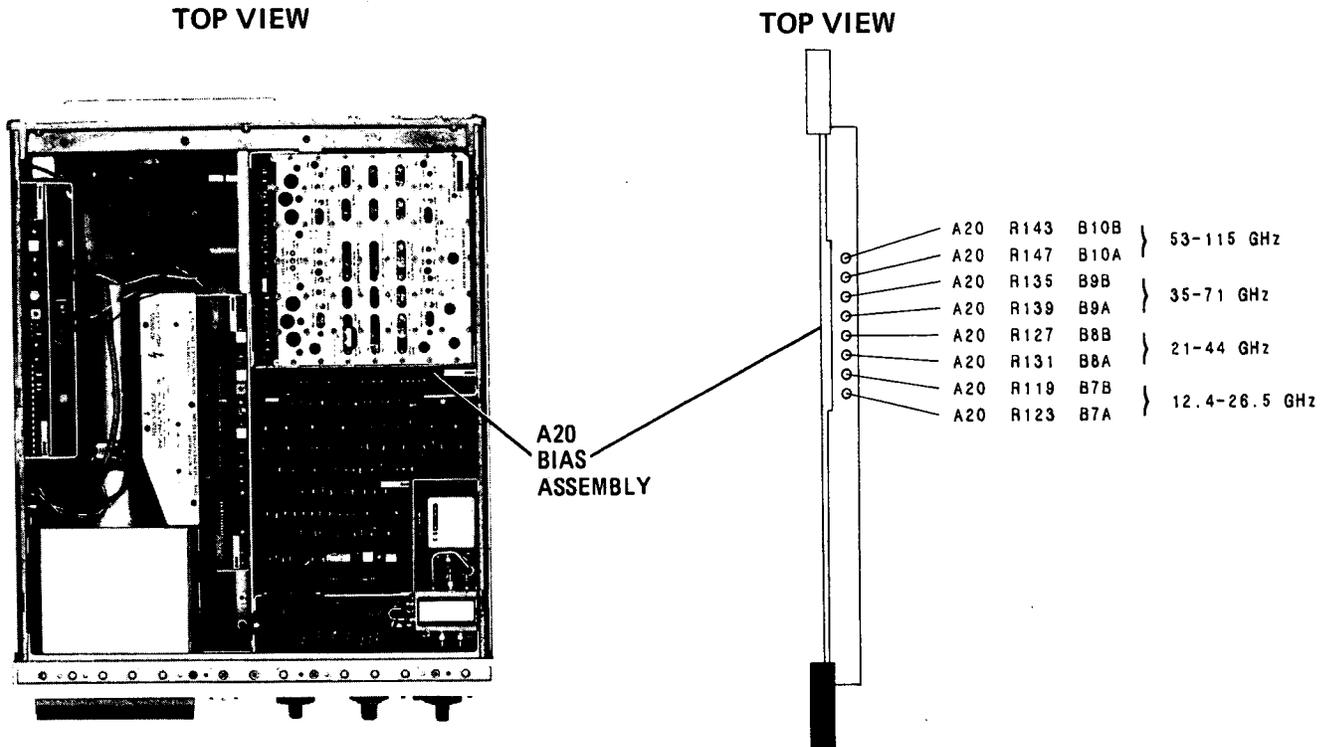

Figure 5-59. Amplitude Calibration of External Mixing Bands Adjustment Locations
22. Adjust B7A (A20R123) for trace at top graticule line. (See Figure 5-59 for location of adjustments.)